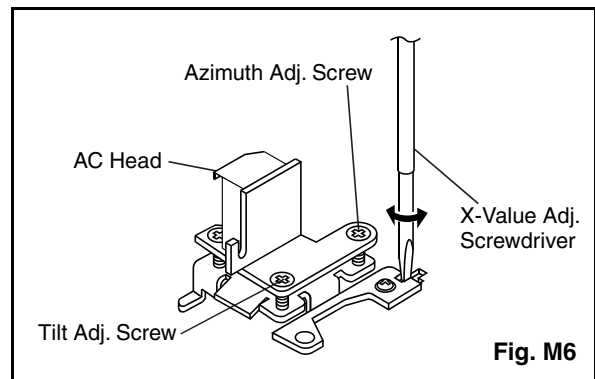

Fig. M6
4. If creasing or snaking is apparent, adjust the Tilt Adj. Screw of the AC Head. (Fig. M6)
4. Use the X-Value Adj. Screwdriver so that the PB FM signal at TP008 (C-PB) is maximum. (Fig. M6)
- Adjust Azimuth Adj. Screw so that the output level on the AC Voltmeter or the waveform on the oscilloscope is at maximum. (Fig. M6)